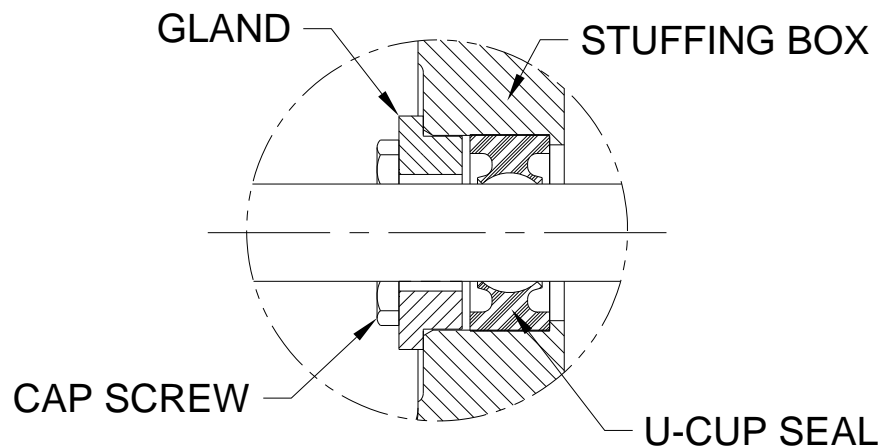

Figure 5
- d. Carefully insert the one piece seal into the stuffing box. Ensure the seal is completely seated. See Figure 5.